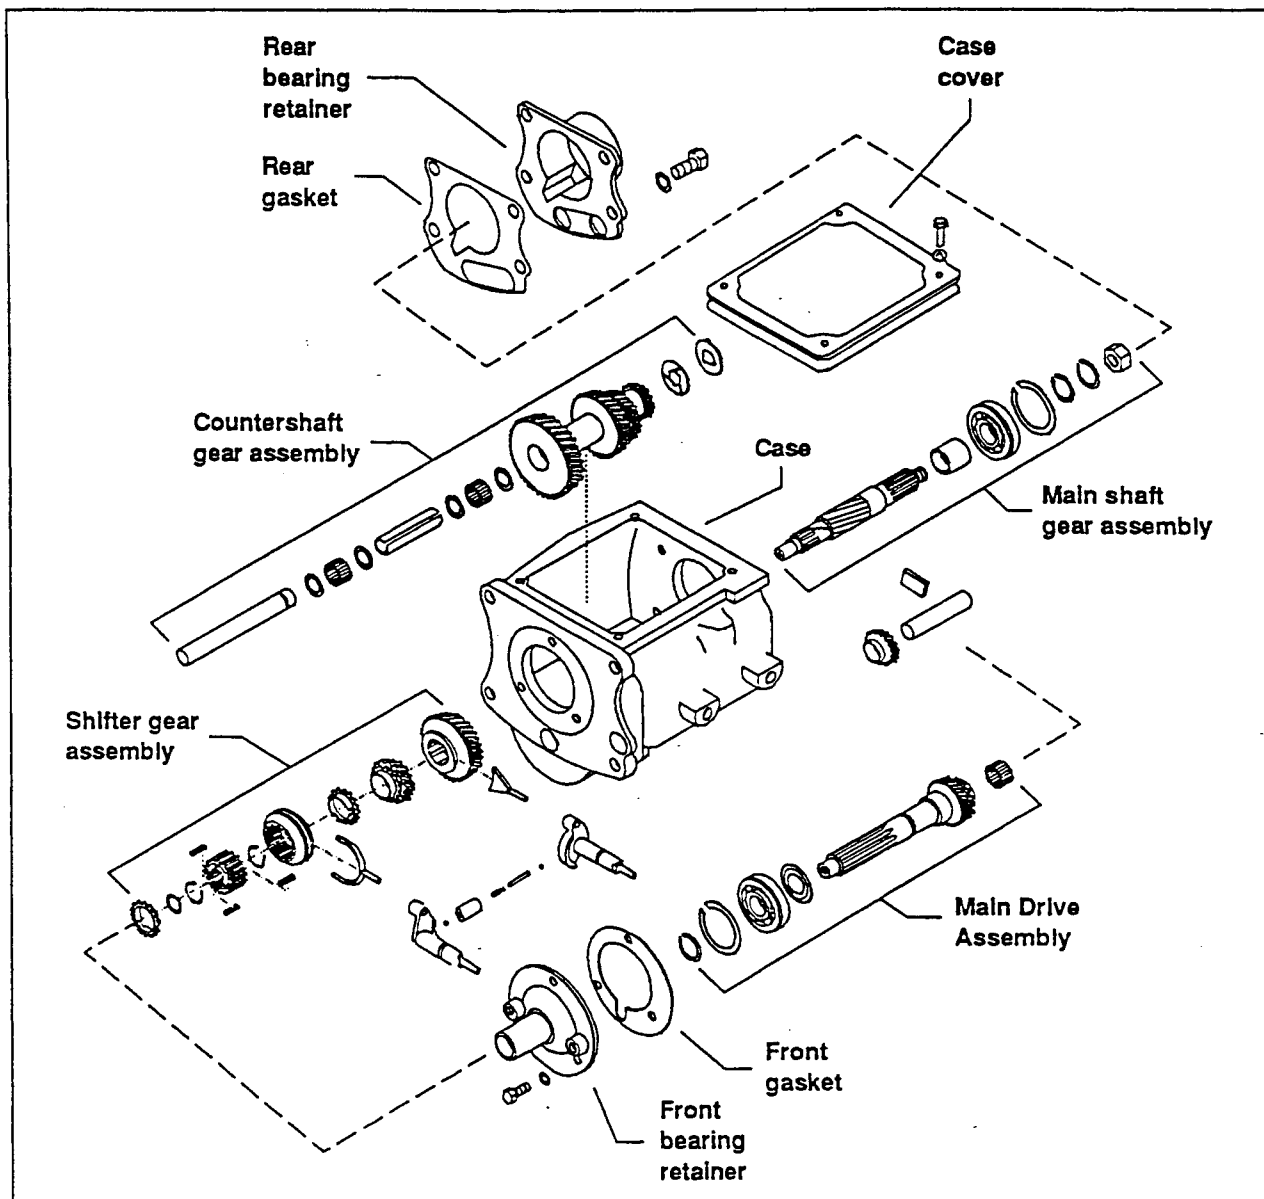

Figure 35 The transmission assembly
To remove the transmission, do the following (see Figure 35):
- 3** Remove case cover (Figure 35).
- 4** Remove front bearing cap from transmission (Figure 35).
- 8** Remove rear cover from transmission case (Figure 35).